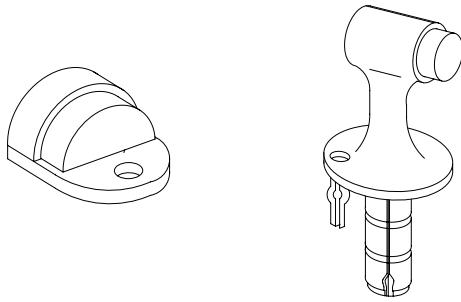

FIGURE 16a
1. Floor Door Stops, Figure 16a, and Wall door stops, Figure 16b, are positive stops, mechanically attached to either the floor or wall. When the door is opened to the desired limit, it comes in contact with the stop which prevents any further travel.